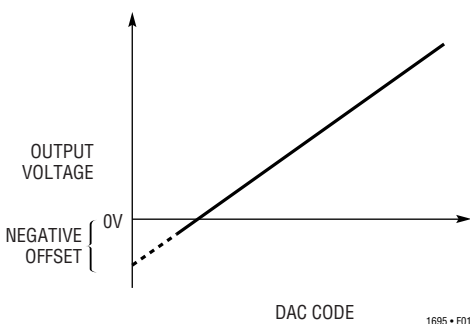

Figure 1. Effect of Negative Offset
**Voltage Offset Error ( $V_{OS}$ ):** The regulator output voltage if all DAC bits are set to zeros. The LDO amplifier can have a true negative offset, but due to the LTC1695's single supply operation,  $V_{OUT}$  cannot go below ground. If the offset is negative,  $V_{OUT}$  will remain near 0V resulting in the transfer curve shown in Figure 1.
The  $\Delta V_{OUT}$  calculation includes the  $V_{OS}$  values to account for the effect of negative offset in Figure 1. This is relevant for code 1's DNL.